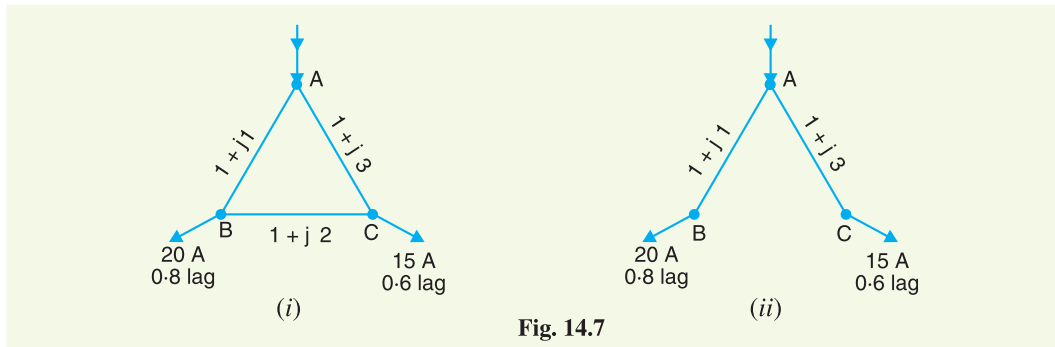

Fig. 14.7
**Solution.** Fig. 14.7 (i) shows the ring distributor ABC. Thevenin's theorem will be used to solve this problem. First, let us find the current in BC. For this purpose, imagine that section BC is removed as shown in Fig. 14.7 (ii).
Referring to Fig.14.7 (ii), we have,